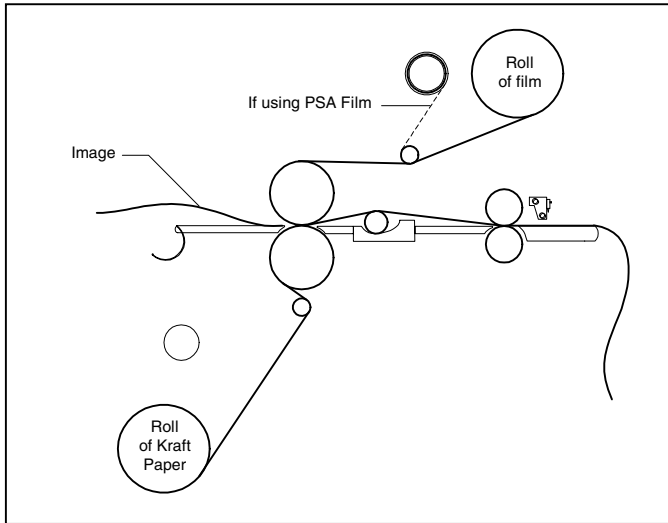

Fig. 38
#### TIPS FOR SINGLE SIDED LAMINATION (Figure 38)
1. Load the laminator as illustrated in Figure 38.